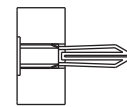

Fig. 4
- 5 Insert anchor in hole and tap flush with a hammer (Fig. 4).